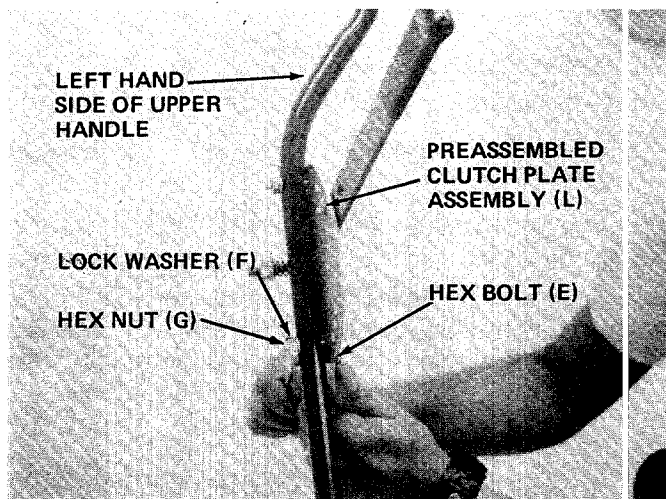

FIGURE 6.
7. Place preassembled clutch plate assembly (L) on the left hand side of upper handle. Secure in place with hex bolts (E), lock washers (F) and hex nuts (G). See figure 6.